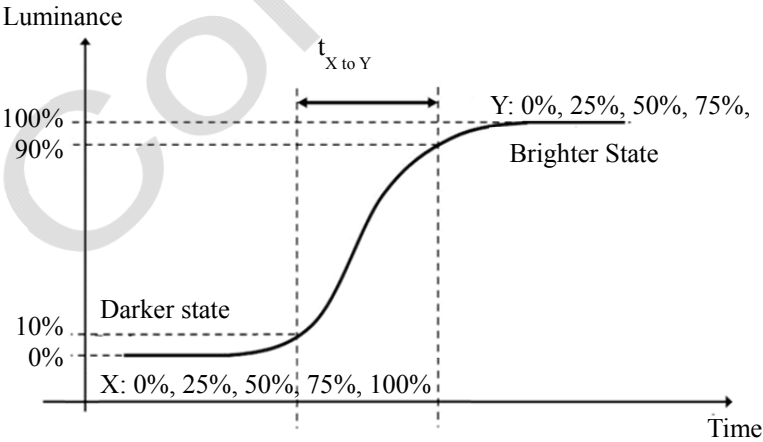

Fig. 6.4 The definition of  $t_{X \text{ to } Y}$
(3) Response time  $T_L$  is defined as the average transition time in the response time matrix. The table below is the response time matrix in which each element  $t_{X \text{ to } Y}$  is the transition time from luminance ratio X to Y. X and Y are two different luminance ratios among 0%, 25%, 50%, 75%, and 100% luminance. The transition time  $t_{X \text{ to } Y}$  is defined as the time taken from 10% to 90% of the luminance difference between X and Y ( $X < Y$ ) as illustrated in Fig.6.4. When  $X > Y$ , the definition of  $t_{X \text{ to } Y}$  is the time taken from 90% to 10% of the luminance difference between X and Y. The response time is optimized on refresh rate  $F_r = 60\text{Hz}$ .